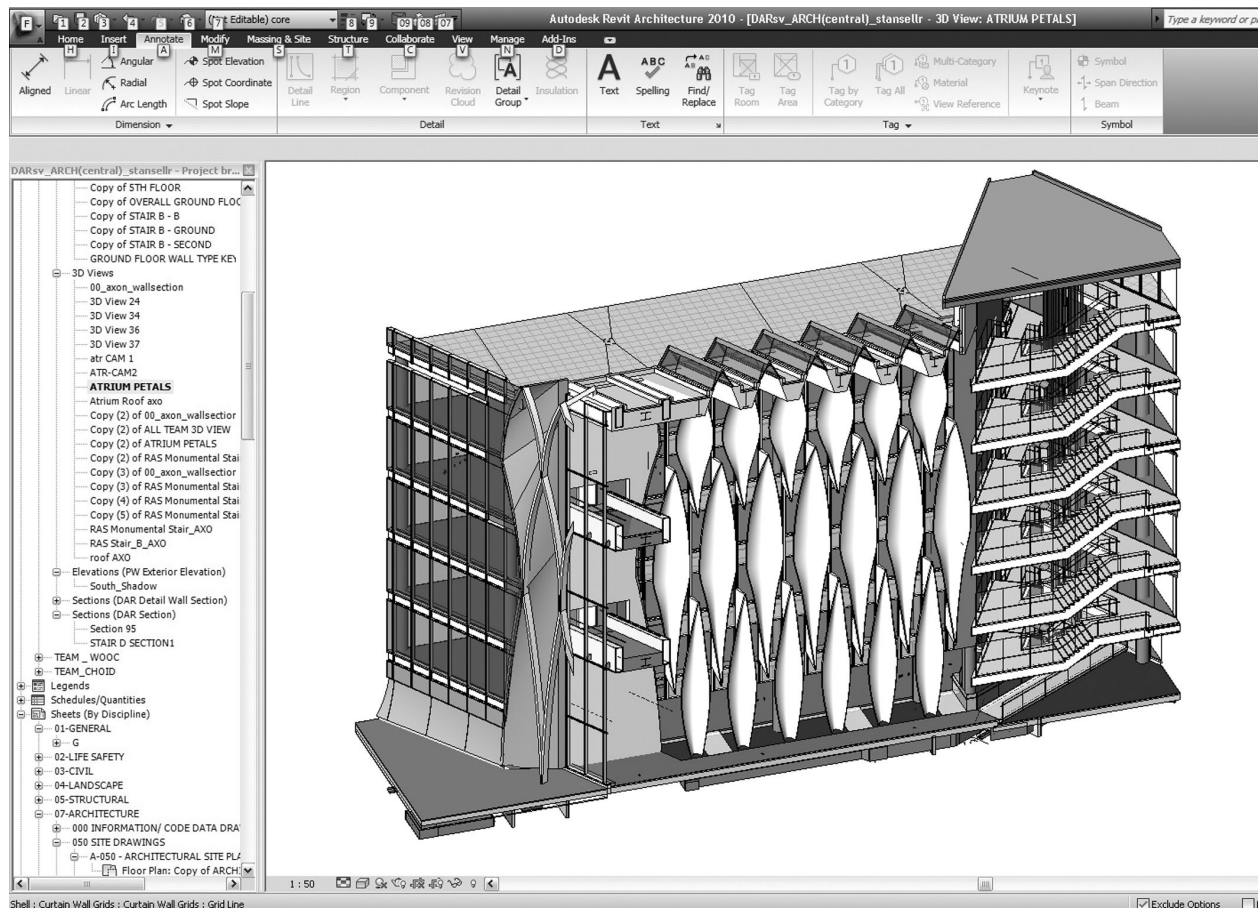

Figure 4.16 Interior atrium section study—DAR headquarters. © 2009–2010, Perkins + Will, all rights reserved
**RN:** We're pretty well differentiated by the fact that we're well diversified. We're more global than we've ever been. Our partner Dar is a huge factor in our ability to weather this storm. We're focused on design excellence, on expertise, on quality and innovation. We bring in people who are going to drive these goals, and it is up to IT to respond to these things. (See Figure 4.16.)